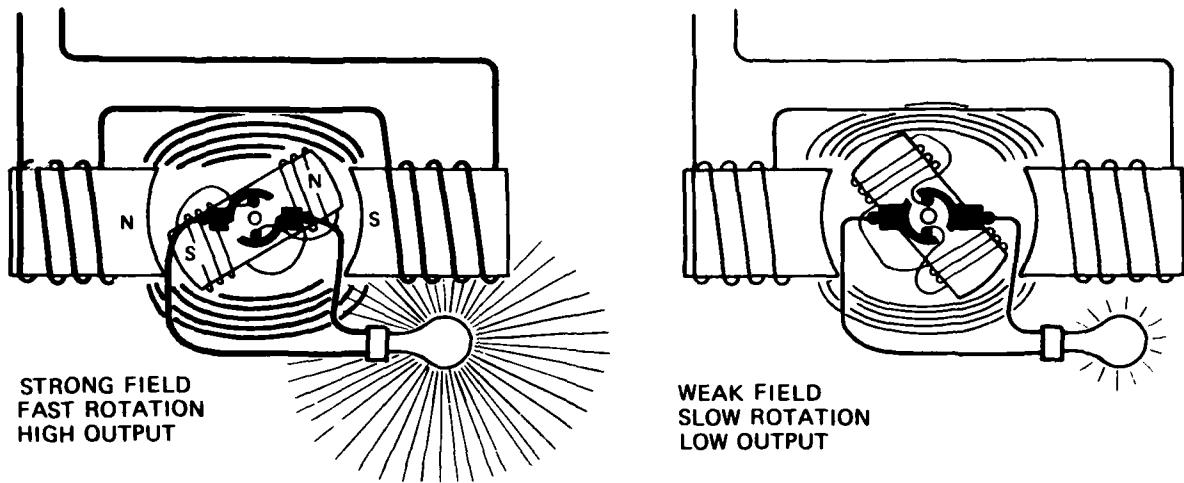

Figure 37
- Increasing the strength of the magnetic field and/or increasing the speed of the armature increases the generated voltage. (See Figure 37)
The speed of a mine hoist motor needs to be controlled. The speed of the alternating current motor, like the direct current motor, depends on armature current. In a mine hoist AC motor, armature resistances are placed in the armature coil circuits. The resistances can be bypassed by closing switches. (See Figure 37)